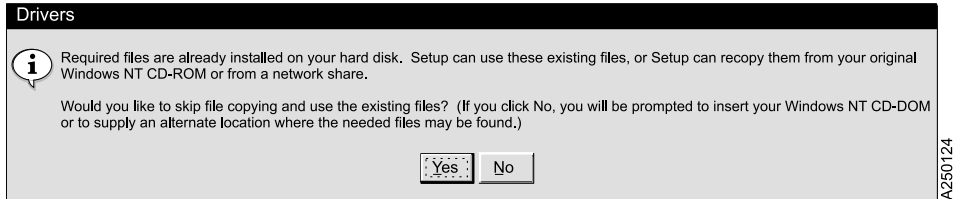

Figure 16. Windows NT Statement
9. If you installed the **Device Driver System Files** component in step 4 on page 146, Windows NT might ask the question shown in Figure 16. Click **Yes**, then skip to step 11. If the system prompts you for *ibmtape.sys*, browse to select the drivers directory (*c:\winnt\system32\drivers*). The system may also prompt you for *ntutil.exe*. Browse to the system32 directory (*c:\winnt\system32*).
10. If you **did not** install the **Device Driver System Files** component in step 4 on page 146, click **No** to the question in Figure 16. The operating system will prompt you for the location of the driver files.